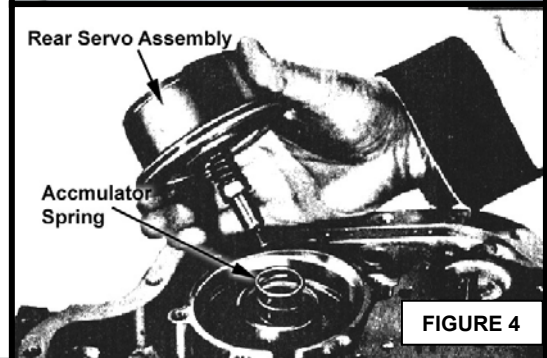

FIGURE 4
6. Remove existing valve body, separator plate, and gaskets. Discard all check balls. Remove rear servo assembly. Remove and discard oil-sealing rings from accumulator piston and discard stock accumulator spring. Install new accumulator spring furnished in kit and replace servo assembly and cover. (Figure 4)